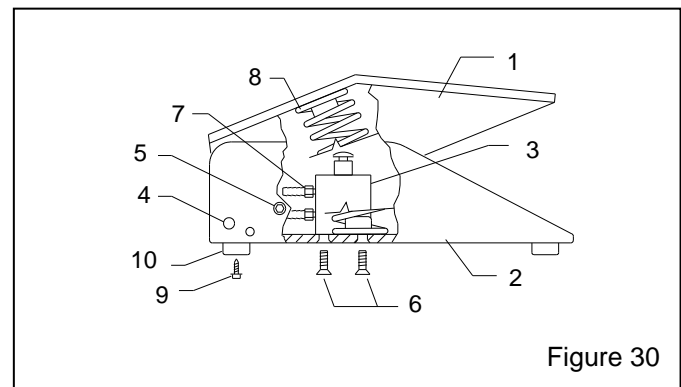

Figure 30
9.9 Foot Pedal Assembly, Figure 30